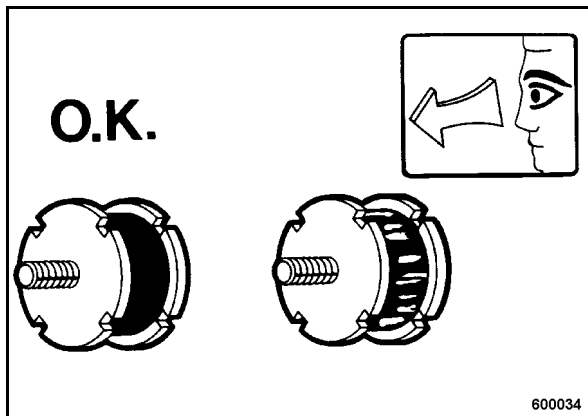

Fig. 83
- Check all rubber buffers (Fig. 83) for tight fit, cracks and damage and replace immediately if damaged.